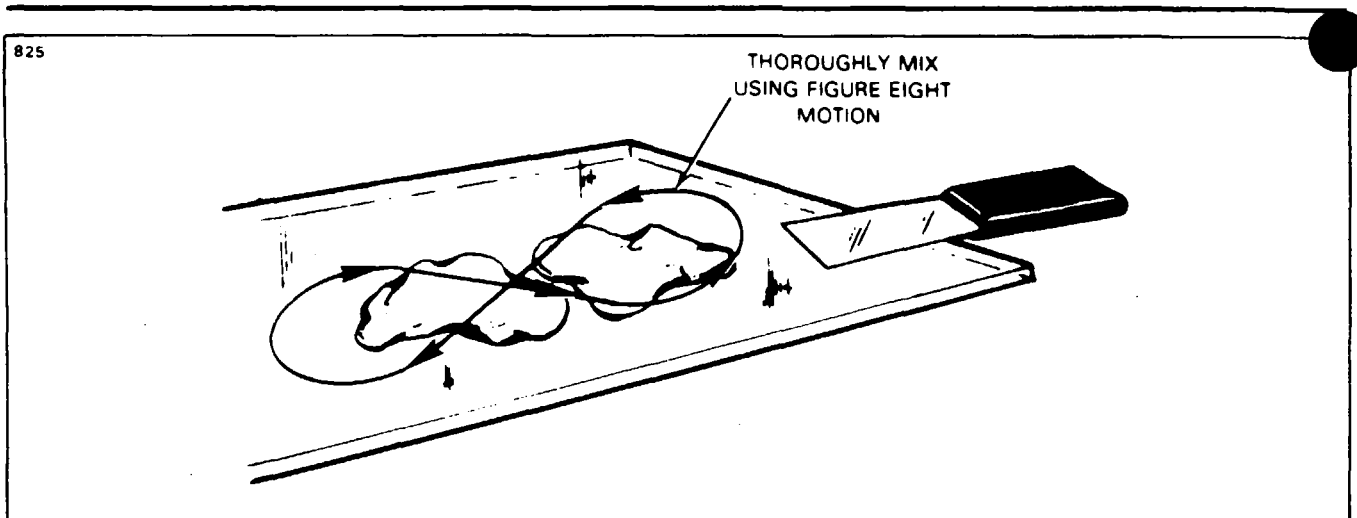

Figure 4-10. Deep Scratches, Shallow Nicks and Small Holes
3. Deep Scratches, Shallow Nicks and Small Holes: (Less than 1 inch in diameter.) (Refer to Figure 4-10.)